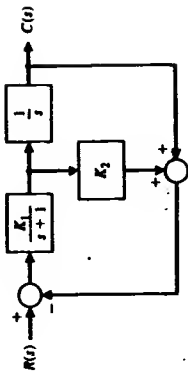

Figure 1.
1. A control system has the structure shown in Fig. 1.